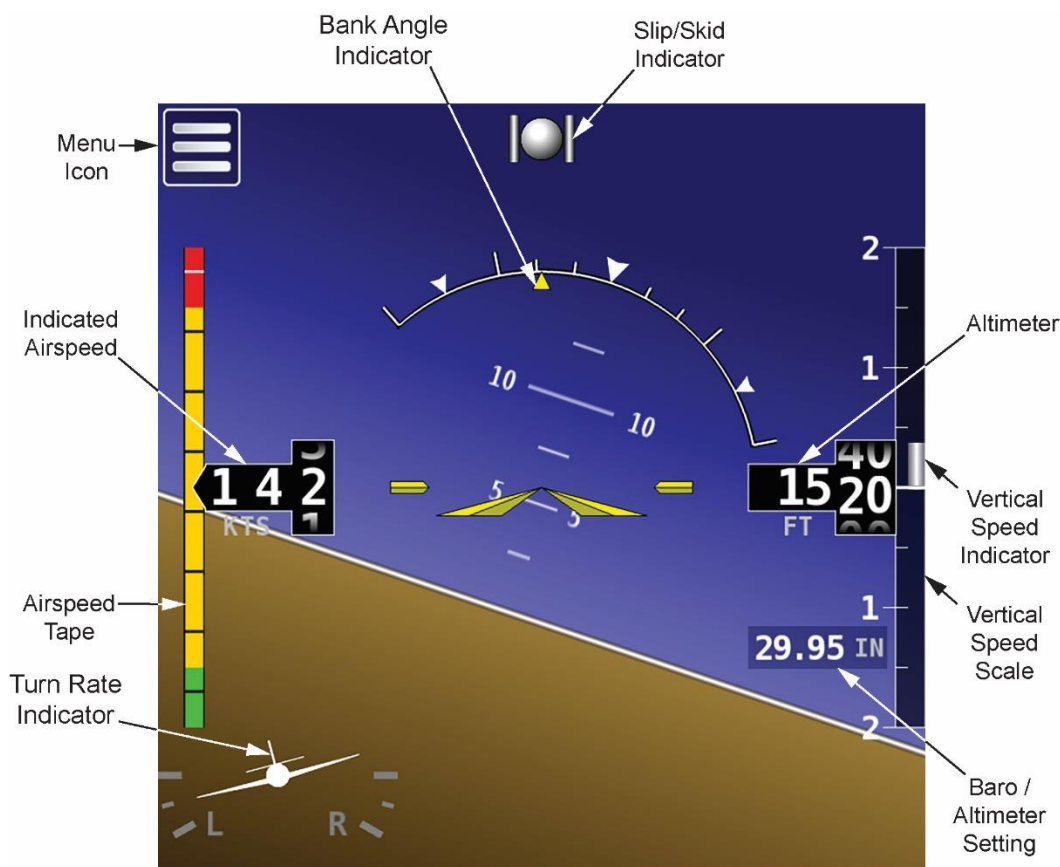

Figure 1: Flight Indications
The D30 provides the flight indications listed below. See Figure 1 for locations of the D30's flight indications; see section 6: System Overview for detailed information about indicator markings.
1. Touch the Menu icon (Figure 1). Main Menu is displayed.
1. Touch the Barometer / Altimeter Setting indicator (Figure 1). The Altimeter Setting tool appears.